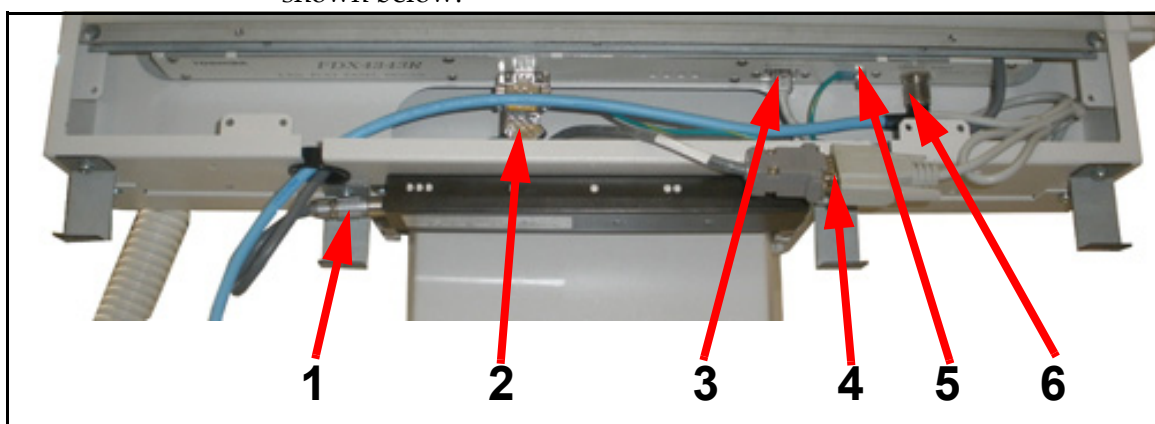

Figure E-16. Receptor Cable Connections
- 18** Connect cables (1 - 6 in Figure E-16) from wallstand to receptor as shown below.